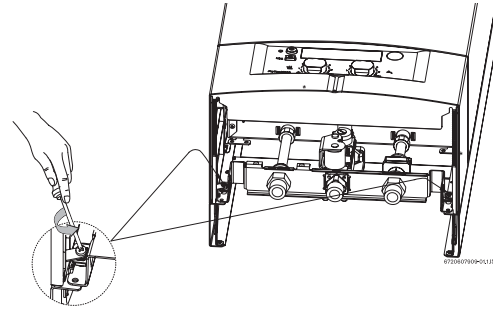

Fig. 2 Screws
- ▶ Loosen the two Philips head screws located as shown in fig. 2.